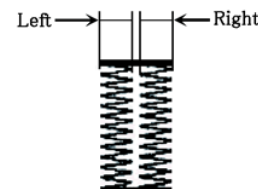

Fig.4
1. When about 50 stitches have been stitched each at right and left sides of buttonhole, measure the difference of stitch width at right and left.(Fig. 4)
Width must be the same at right and left. (Fig. 4)